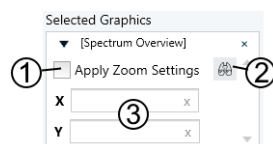

Figure 4-125: Zoom-settings box
5. Enter the "X" and "Y" parameters (3 in Figure 4-125) with a syntax as in Table 4-13. R&S ELEKTRA automatically applies the correct units from the chart.
Note: For spherical or cylindrical charts, you can select a predefined camera direction from a list. To open this list, click the "Select View" button (2 in Figure 4-125). For the view that you select, R&S ELEKTRA automatically enters the correct "X" and "Y" parameters.